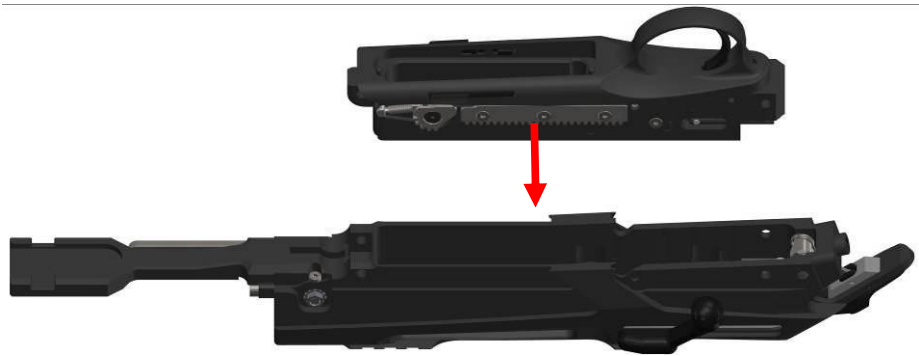

Figure 27
(6) Insert lower system part into upper system part. (Figure 27)